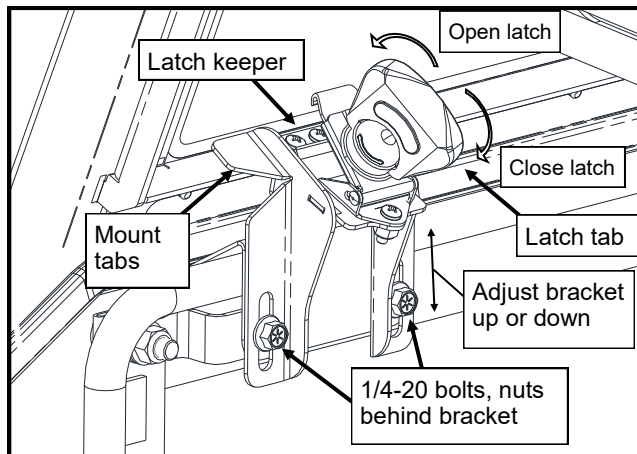

Figure 10.5: Rear Panel Latches
- 10.5 Install one rear panel latch mount to each rear panel tab and bracket with two flanged hex 1/4-20 x 3/4" bolts and flanged nuts per latch (see Figure 10.5). Leave loose.
- 10.6 Open the rear panel latches on the lower rear panel by lifting the tab and rotating the tab counter-clockwise. Hook the latch onto the keeper on the upper rear panel and slightly rotate the latch tab clockwise to partially close (see Figure 10.5).